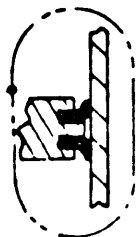

Figure 5 [Lipseal/Piston Arrangement]
Before reassembling, apply a thin layer of grease (Dow-Corning #DC-33 light lubricant or equivalent) to inner wall of cylinder (14), actuator stem (11), lipseals (8) and the lipseal grooves in piston (9). Care should be exercised when inserting piston (9) into cylinder (14) because lipseal (8) flare is designed of a larger diameter than the cylinder bore. **If the piston will not enter the cylinder bore, run a shim [approximately .010" thick x 1/2" wide] between the lipseals and cylinder wall while applying slight pressure on the piston. [See figure 5].** Stem (11) should be carefully inserted through bearing (15) to prevent damage of bearing surface by thread of stem.